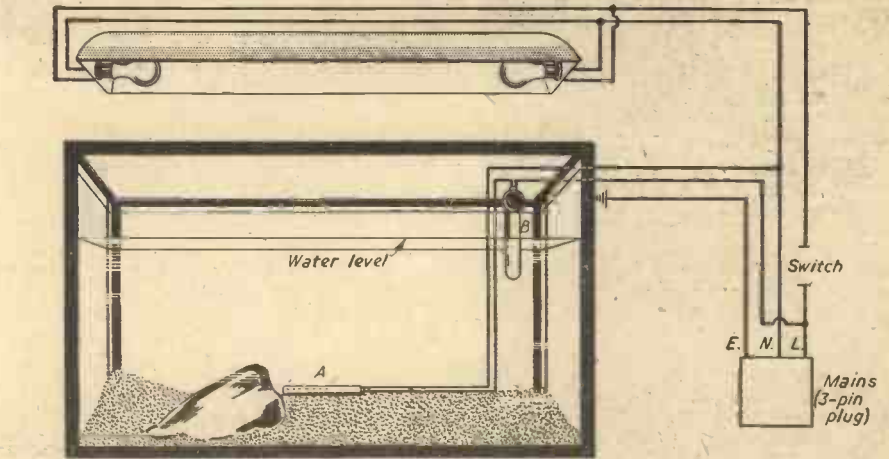

Fig. 4.—The wiring diagram : A—heater , B—thermostat.
When this is to your liking the next job is the heating and lighting. Fig. 4 will help you to follow the circuit. For the heater connect as follows: Live to thermostat (B), which is clipped in the back upper corner. Thermostat to heater (A), lying on top of the gravel along the back. Negative from heater back to mains. Earth to some point on the frame. A good plan is to drill the top of the tank for a nut and bolt, holding a strip of sheet lead, and join the Earth lead to the nut and bolt. See Fig. 2.